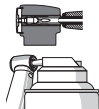

Fig. 6
Chuck Maintenance (Fig. 6)
4. Insert spray adapter into chuck and dispense spray for 1 - 2 seconds (Fig. 6).